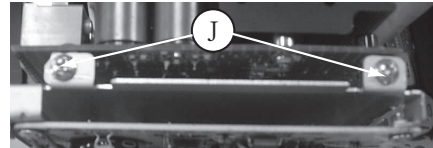

Figure 10
- 2) Loosen 2 screws "J" as shown in figure 10